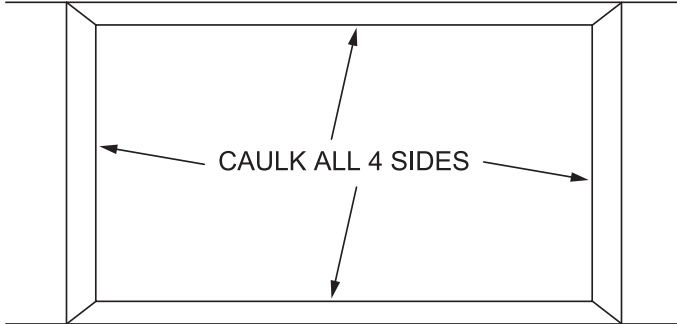

Fig. 1
- Caulk must be applied to the spaces between the rails or stiles and all 4 sides of the door panel at all panel perimeters (Fig. 1).